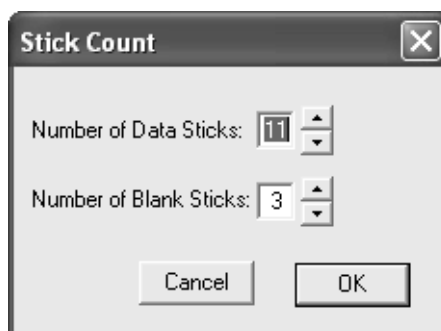

Figure 4-5: The Stick Count Dialog
- 2) The Stick Count dialog opens (Figure 4-5). The Stick Count dialog consists of Number of Data Sticks and Number of Blank Sticks fields.